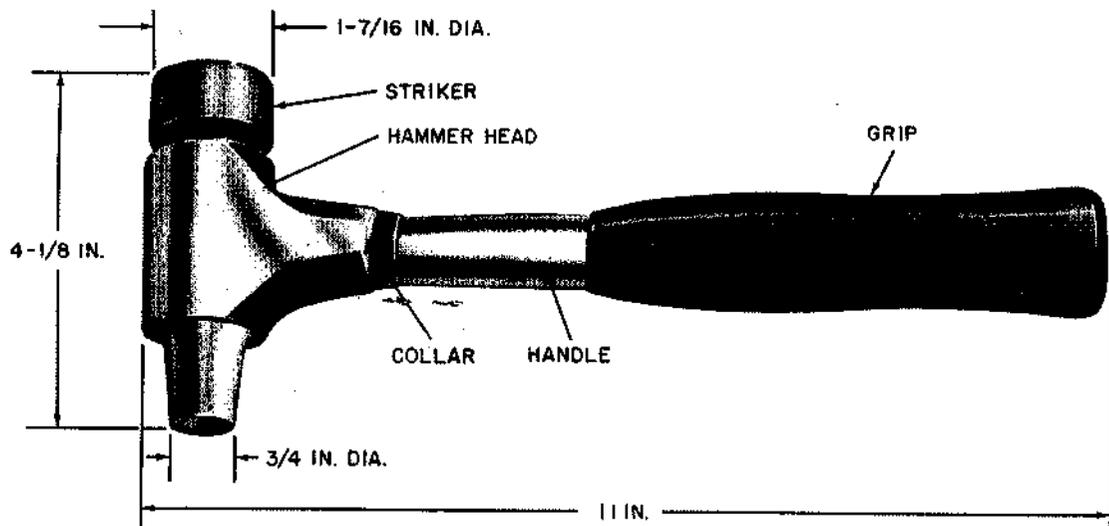

Fig. 1 — B-Hammer
1.02 This 2-pound hammer (Fig. 1) has a steel head with a shock mounted striker. A series of four synthetic rubber rings between the striker and the head form the shock barrier. One end of the striker is tapered for use in restricted areas. The B-Hammer has a tubular steel handle equipped with a rubber grip.